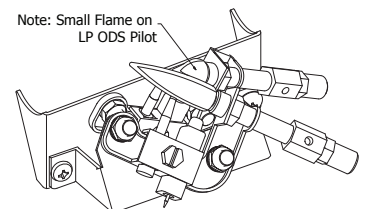

Fig. 16 - Pilot
4. Wait five (5) minutes to clear out any gas. Then smell for gas, including near the floor. If you smell gas, STOP! Follow "B" in the safety information as noted above. If you don't smell gas, go to the next step.
5. Turn control knob counterclockwise  to the "PILOT" position (See Fig. 16). Depress control knob.
7. Keep control knob depressed for (30) seconds after pilot lights. Release control knob.
- If pilot goes out repeat steps 3 through 7. Wait (1) minute before attempting to light pilot again. If after several tries the pilot still goes out, turn the gas control knob clockwise  to the "OFF" position and call a qualified service technician.